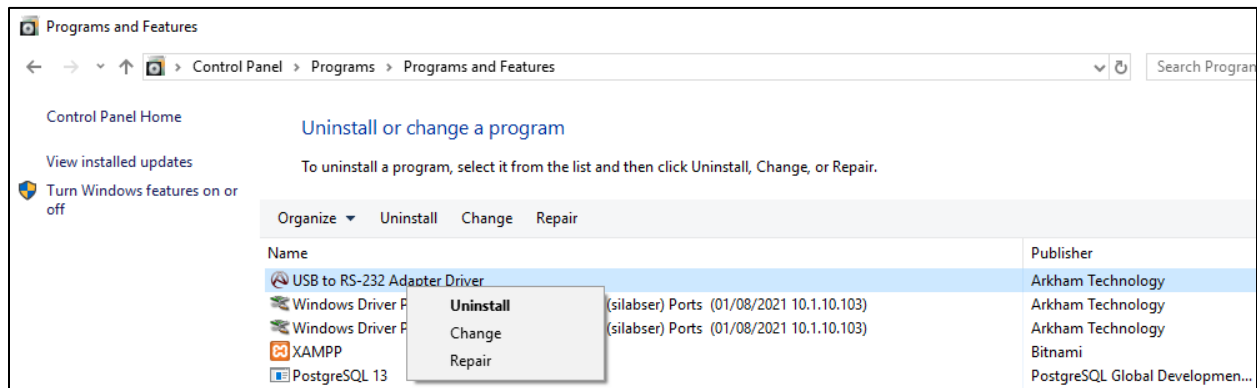

Figure 2-8: Add or Remove Programs
The *Add or Remove Programs* window will then appear as shown in Figure 2-8.
3) Select the *USB to RS-232 Adapter Driver* entry as shown in Figure 2-8.